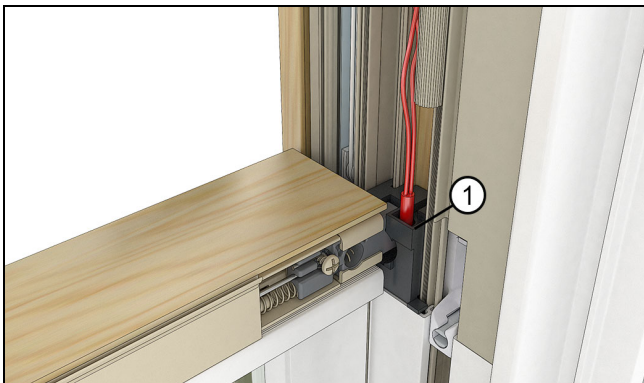
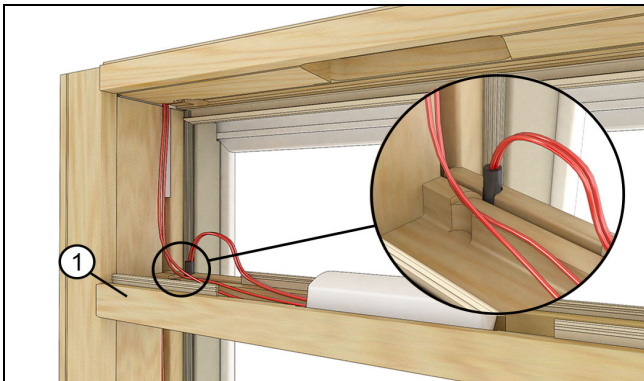

Figure 10
Figure 11
1. Two sensors are embedded in the frame. One is in the jamb receiver, this indicates the bottom sash is closed. The other is hidden within the head jamb transmitter cover and indicates the top sash is closed. See Figure 10 and Figure 11.